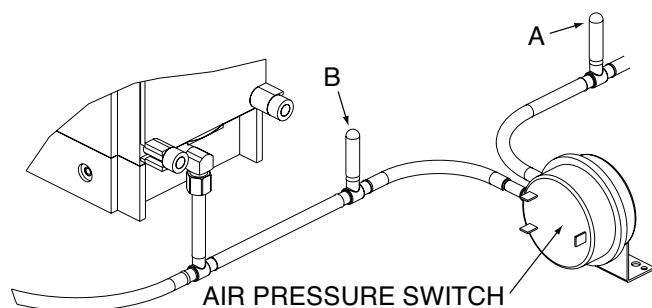

Fig. 48: Air Pressure Measurement Locations
1. Check the net blower suction using a 6-0-6 U-tube manometer by connecting one end to the blower suction pressure tee (attached to the negative side of the air pressure switch, point "A" in Fig. 48) and the other end to the tracking pressure tee (attached to the positive side of the air pressure switch, point "B" in Fig. 48). Read the differential pressure with the heater firing at 100% input and compare to Table V.
2. Check the tracking pressure by removing the end of the U-tube manometer from the blower suction pressure tee (point "A" in Fig. 48). Replace the cap on the blower suction tee and check the tracking pressure (at point "B" in Fig. 48) with the heater firing at 100% input. The tracking pressure provides feedback to the gas regulator to compensate for various air ducting arrangements and changes in the pressure drop across the combustion air filter. Initial readings with a clean air filter installed must be recorded on the "Start-up Checklist" located at the back of this manual. When the tracking pressure is more negative than -0.6 in. WC for 1005 and 1505 models or -0.8 in. WC on 2005 models and there are no obstructions to the air intake, replace the combustion air filter. If the air intake is obstructed, shut the unit off, clear the obstruction, re-start and check the tracking pressure as previously noted.